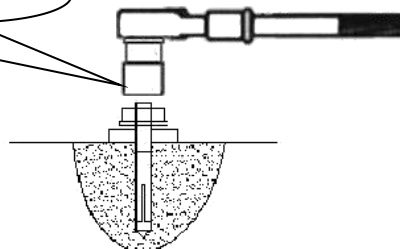

Fig. 27
3. Tighten all anchor bolts shown in Fig.27.